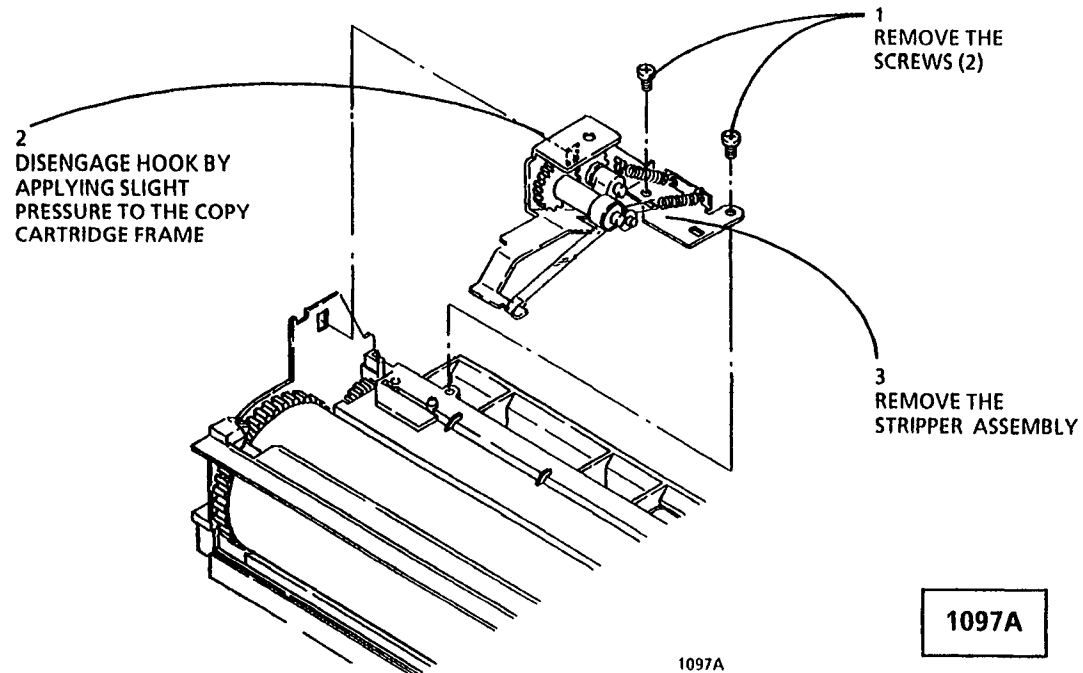

Figure 1. Removing the Stripper Assembly
3. (Figure 1): Remove the Stripper Assembly from the bottom of the Copy Cartridge.